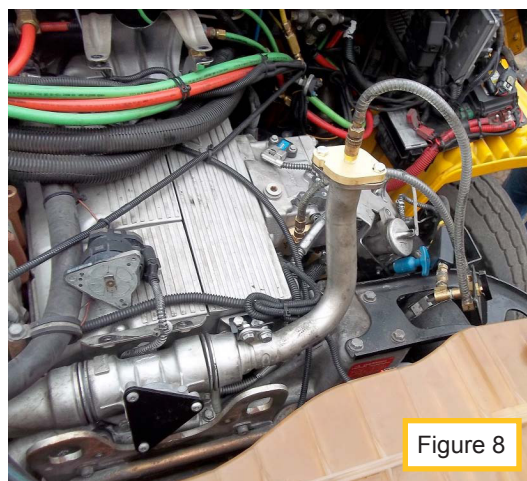

Figure 8
- Attach EGR manifold 069-3399 to EGR intake and exhaust adapters (see figure 8). Attach EGR tool 500-0170 to 069-3399. Ensure air valve and fluid valve are closed – see EGR tool user guide.